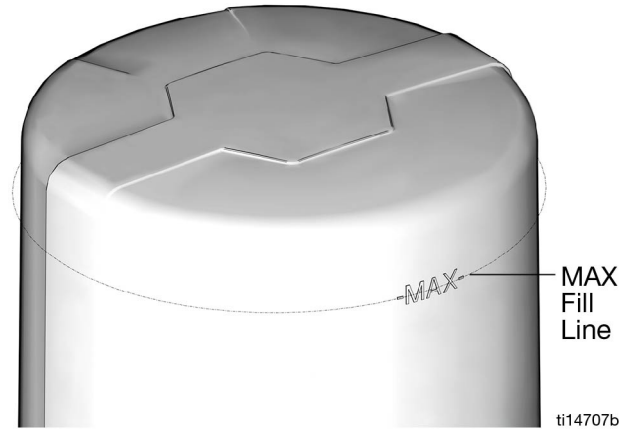

FIG. 27
- Do not fill above the maximum fill line (FIG. 27).
3. Fill reservoir to the max fill line (FIG. 27).
4. When the grease has reached the max fill line (FIG. 27, page 23), remove the fill hose and replace the dust cap (26) over the inlet fitting (25).